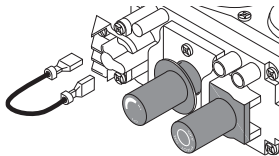

Figure 26 - Disconnecting Wires From Control Valve
1. Disconnect wires from the control valve (see Figure 26).
1. Remove jumper wire from control valve (see Figure 26).
1. Remove jumper wire from control valve (see Figure 26, page 19).